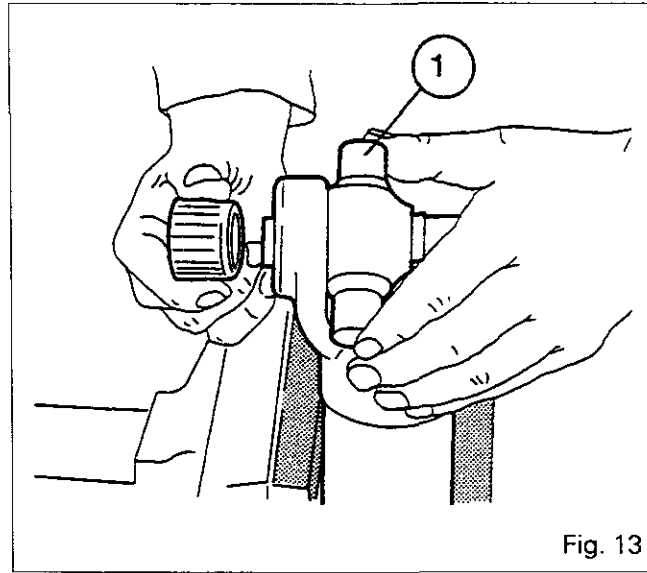

Fig. 13
89. Position the universal joint **(1)** in the yoke and push it as far as possible to the side (Fig. 13) so that the end of the cross-pin serves as a guide for the fitting of the sleeve with the needles.